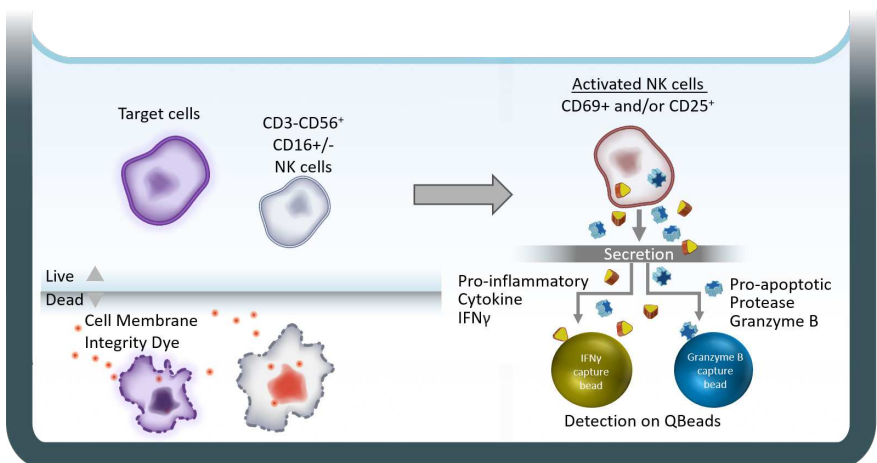

Figure 1. Simultaneous endpoint measurement in a single well.
- Analysis of NK cell phenotypes, and functions at different stages in a single, high content assay including activation markers (CD69 and CD25), cell membrane integrity, cell count, secreted pro-inflammatory cytokine Interferon gamma (IFN $\gamma$ ), and pro-apoptotic protease Granzyme B (see **Figure 1** for more detail).